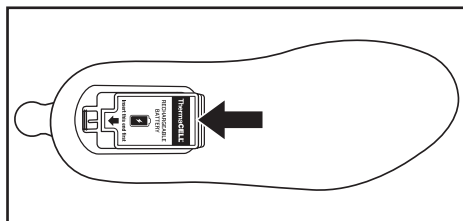

Figure 7
3. Align the battery on top of the Insole battery compartment with the foam side facing up so that the battery connector is facing the red Insole connector (Figure 7).